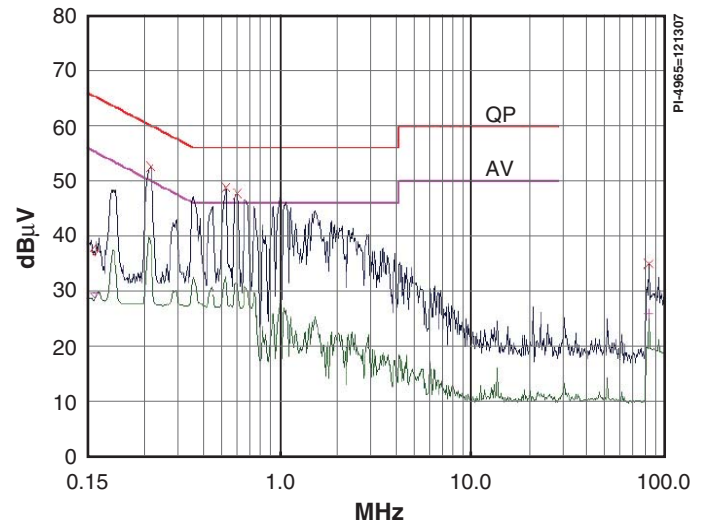

Figure 3. Conducted EMI Scan to EN55022 B Limits. Measurements Made at 230 VAC With Output RTN Floating.
- Meets CISPR-22/EN55022 B conducted EMI limits with >8 dB $\mu$ V margin (see Figure 3)
circuit and line surge withstand capability. EMI filtering is provided by C1, C2, C7, and L1. The integrated frequency jitter feature of U1, along with transformer E-Shield™ techniques, allows such simple EMI filtering to comply with EN55022B limits (see Figure 3).